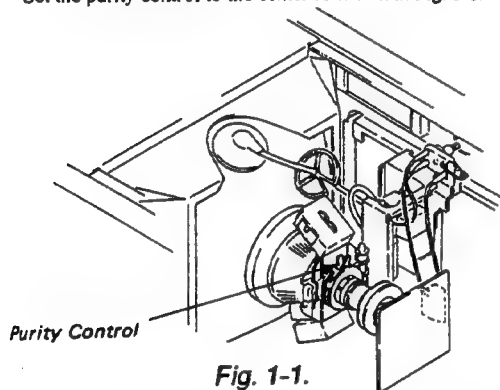

Fig. 1-1.
4. Set the purity control to the center as shown in Fig. 1-1.